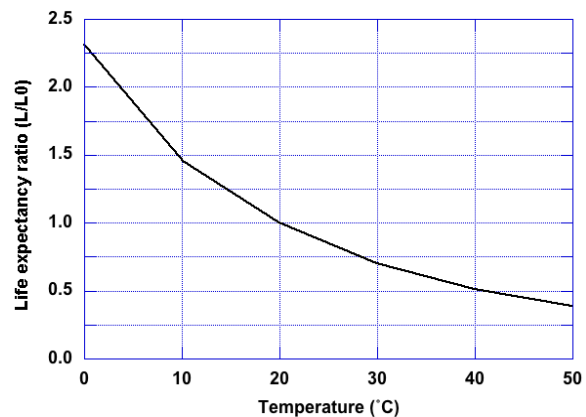

Fig. 8b - Relationship of life expectancy vs. temperature (L₀ = life at 20°C)
Figure 8b shows the relationship between life expectancy and ambient temperature. The Y-axis indicates the ratio of life expectancy at a given temperature (L) compared to life expectancy at 20°C (L₀). A correlation exists between the sensor's life time and its storage temperature—the life time becomes shorter as the storage temperature increases.